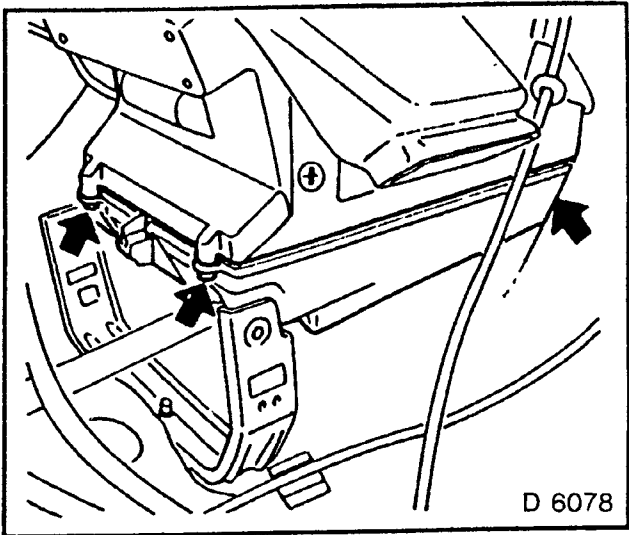

Fig. 24
- For clearer representation fig. 24 shows instrument panel removed.